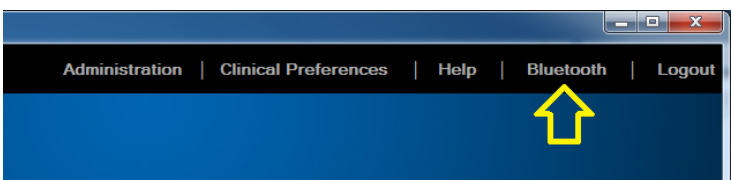

Figure 19: Bluetooth
- Press the Bluetooth link on WalkAnalyst home screen (see Figure 19).